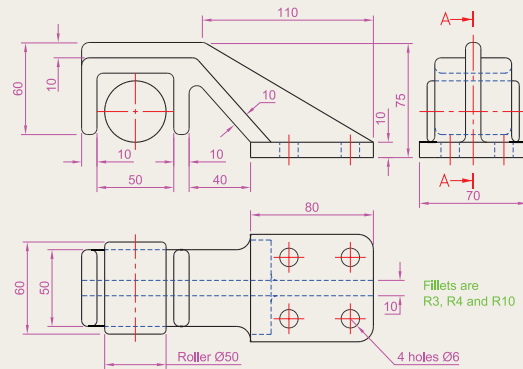

Fig. 8.21 Exercise 2
2. Construct the three-view orthographic projection shown in Fig. 8.21 to the given dimensions with the front view as the sectional view **A–A**.